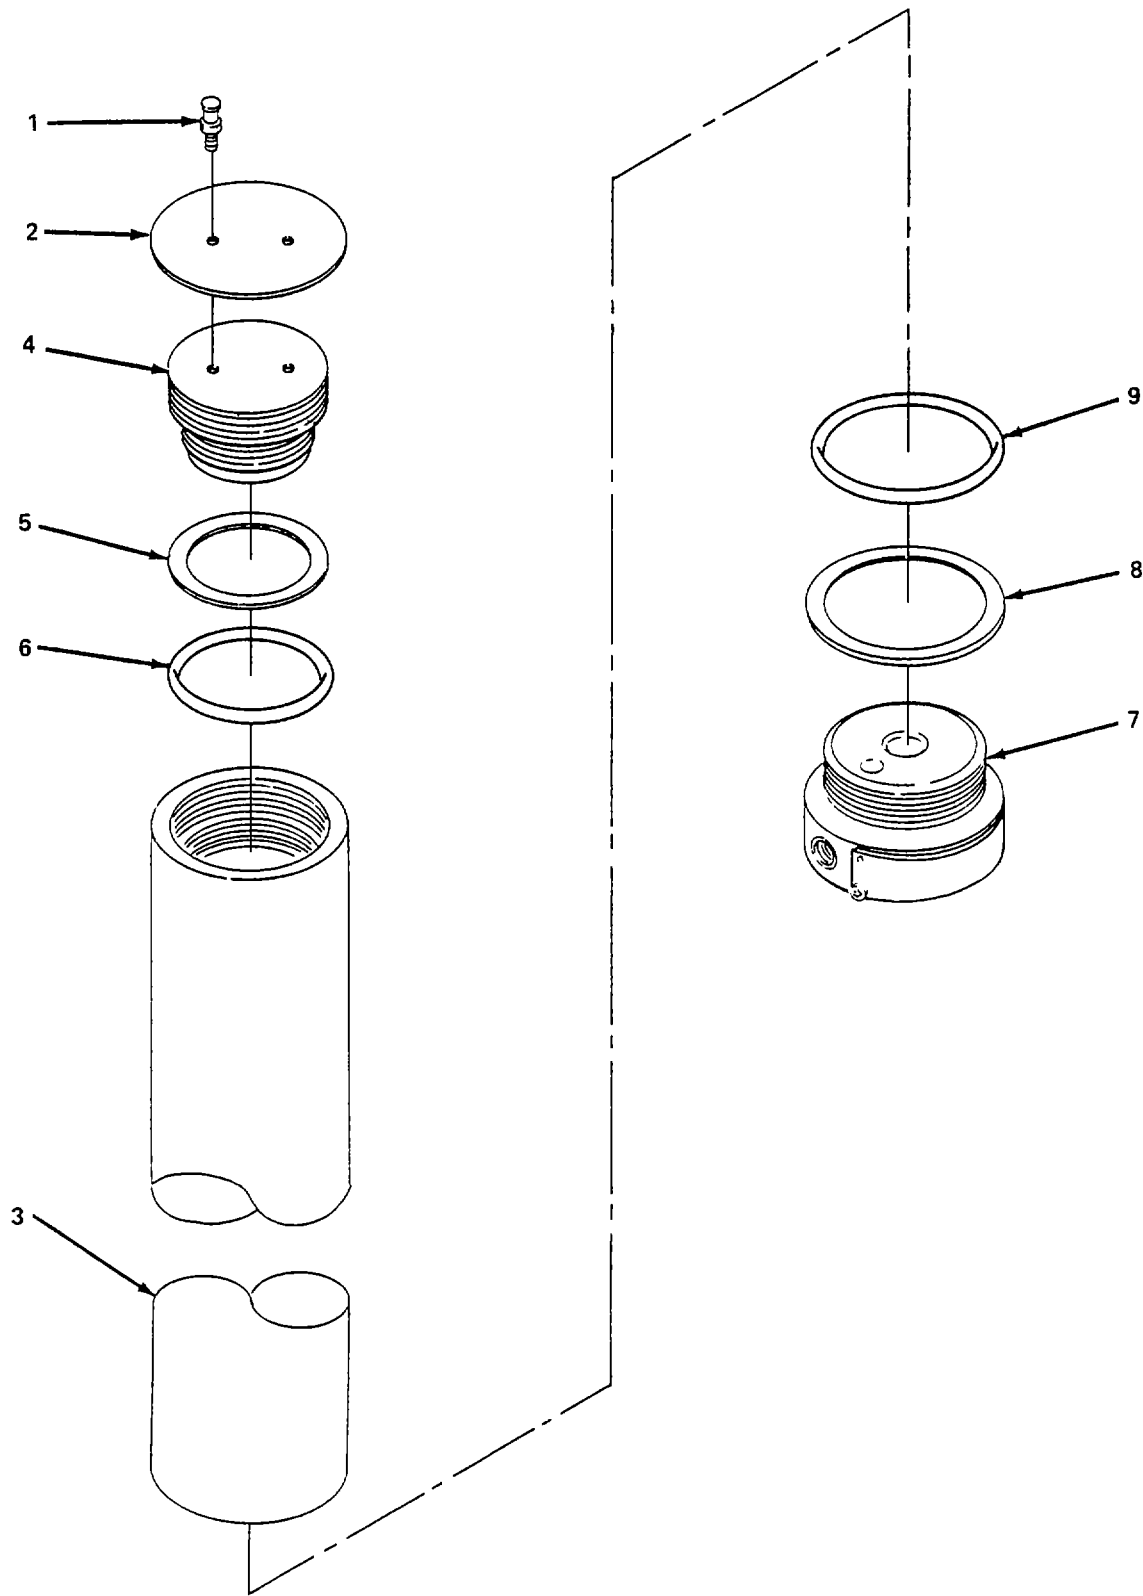

Figure 5-40. Purification Cylinders, Repair.
- (8) Remove cylinder (15).
- (9) Position cylinder (15) in top and bottom split brackets (14) and secure with two screws (13), washers (12), and nuts (11).
- (10) Tighten union (10).
- (11) Install union (3) on coupling (9).
- (12) Position cylinder (8) in top and bottom split brackets (7), and secure with two screws (6), washers (5), and nuts (4).
- (13) Tighten union (3).
- (14) Install line (2) and tighten coupling (1).
- b. Repair. (figure 5-40)